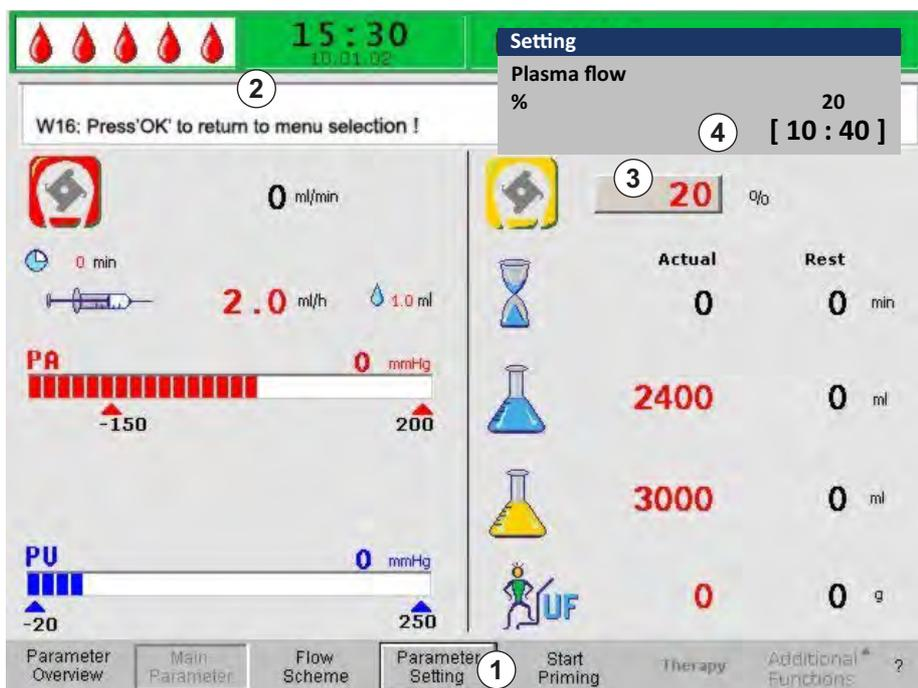

Fig. 3-18 Parameter selection in the *Main Parameter* screen
1. Use rotary knob to select *Parameter Setting* item (Fig. 3-18, ①) in menu bar and press *Enter* key.
- ↳ All parameters which can be changed are displayed in red (Fig. 3-18).
- ↳ In the Alarm/Note line, the message *W16: Press 'OK' to return to menu selection!* (②) appears to indicate that the *OK* key must be pressed to quit the parameter setting.
- ↳ The currently selected parameter value field is shown embossed (like not pressed) with a gray background (Fig. 3-18, ③). The range for parameter setting is displayed in the *Setting* window that appears (④). If a parameter is relevant for patient safety, the currently set value is indicated above the setting range.